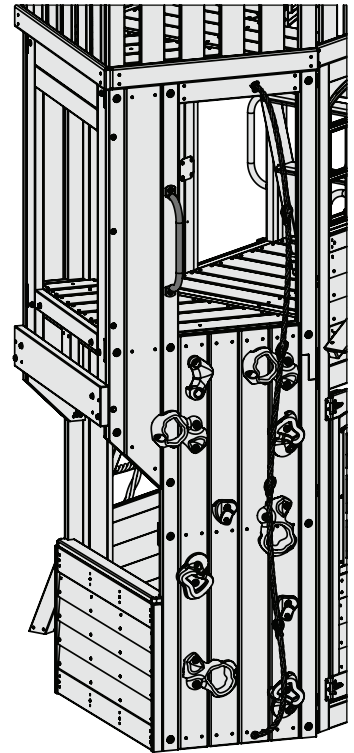

Fig. 67.2
C: Feed rope through hole in bottom of (056) Rock Wall F and pull tight. Tie off the rope securely with a single knot. (fig.67.2)